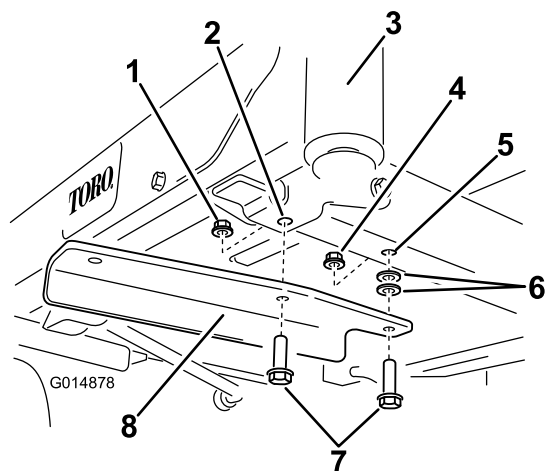

Figure 3
4. Secure the bracket to the frame using two bolts (3/8 x 1-1/4 inches), two washers and two lock nuts (3/8 inch) (Figure 3). One locknut is from loose parts and the other is reused from earlier removal.